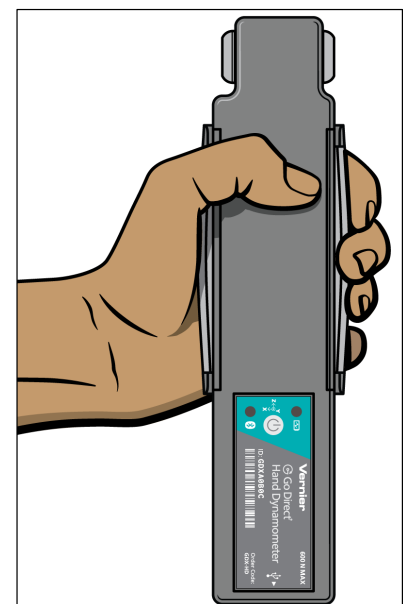

Figure 12. Gripping the Dynamometer.
- b. When the readings stabilize, Choose the "Force" Button at the bottom of the screen and select "Zero" from the pop up menu (Fig. 12).